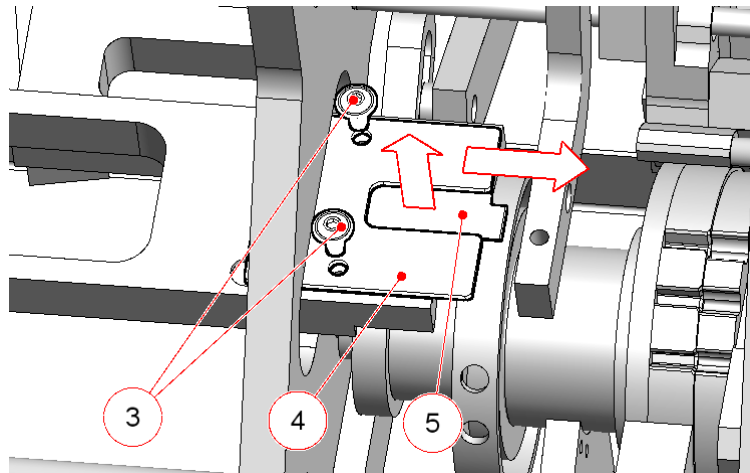

Fig. 21: Replacing the ferrule separating blade
- Remove the two screws with an Allen key size 2.5 (see fig. 21, item 3).
- Remove the separating blade cover (see fig. 21, item 4).
- Replace the ferrule separating blade (see fig. 21, item 5).